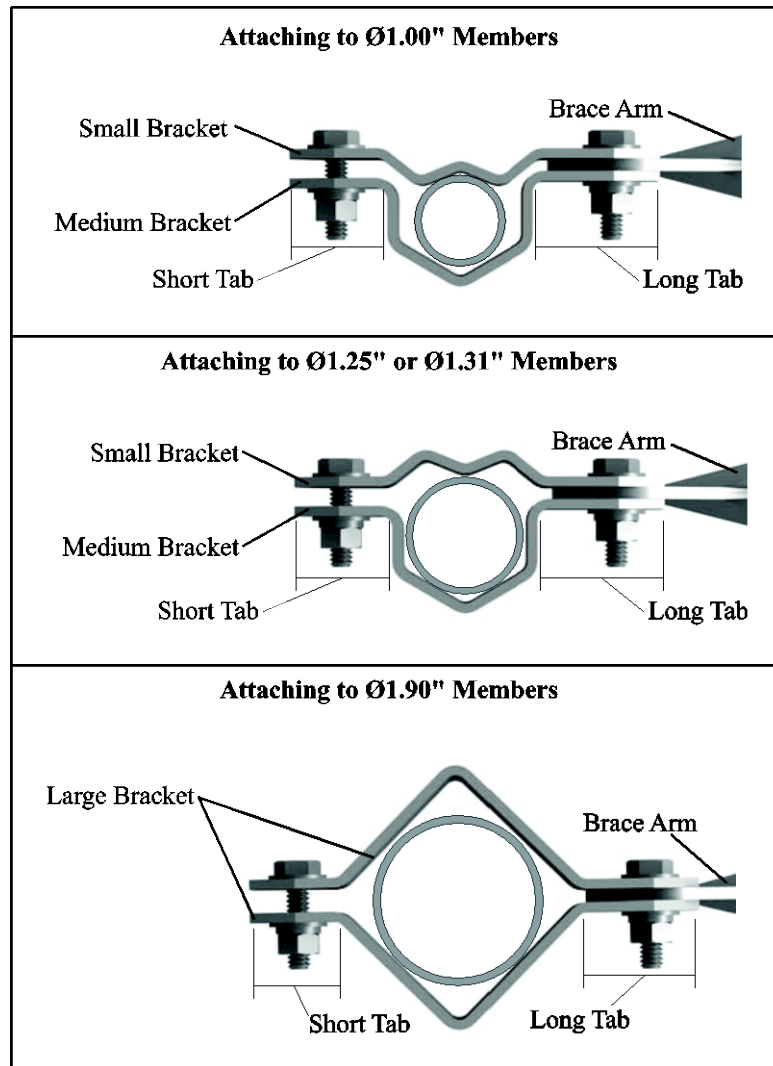

FIGURE 6-21. Bracket selection
1. Consult FIGURE 6-21 and TABLE 6-1 to determine which brackets are needed at either end of the brace to attach it to the crossarm and tripod mast or tower. The figure also indicates what orientation is needed when the small bracket is used.